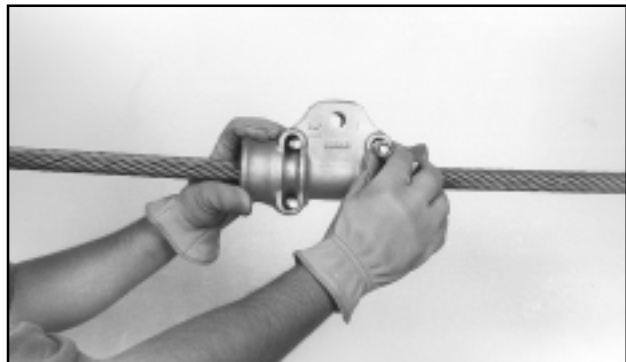

FIGURE 6 - INSTALL KEEPER HALF
3.02 Install the other Cushion Clamp half into place making sure to align the captured U-bolts with the holes in the keeper. (Figure 6)